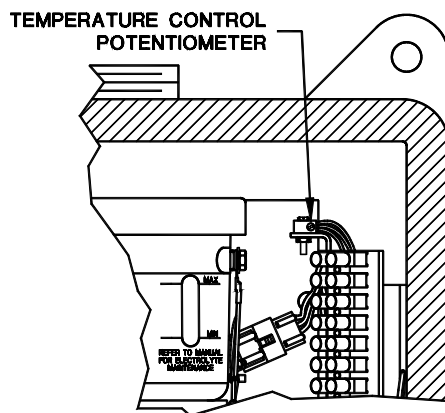

Figure 28: Temperature Control in R7 Enclosure
4) Locate the temperature control potentiometer on the circuit board in the enclosure above the terminal strip. See Figure 28. Turn it clockwise to increase the temperature and counter-clockwise to decrease it. After each adjustment re-cover the enclosure and allow at least an hour for it to stabilize at the new temperature.